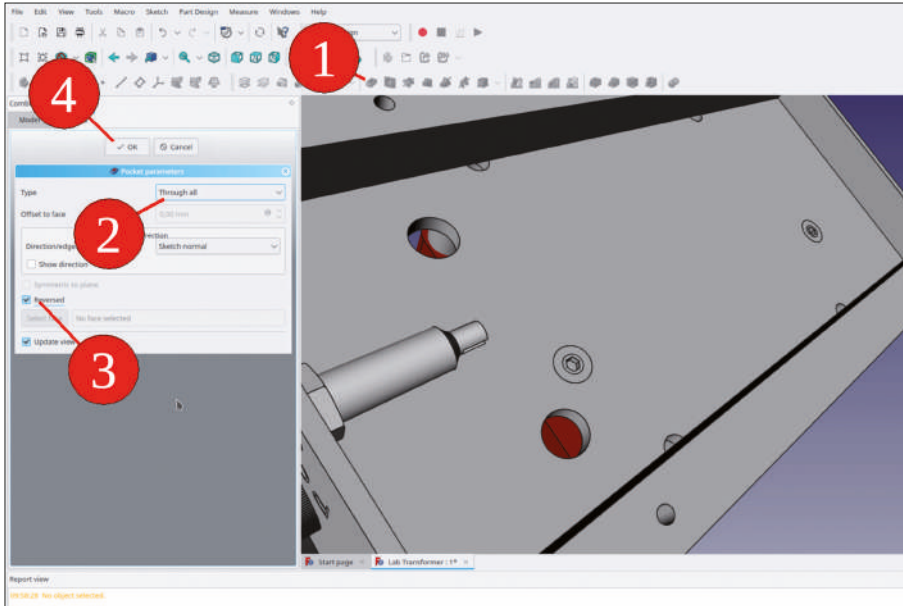

Figure 9-100
21. In the tree view, mark the new sketch and click the 'Pocket' tool button. In the task window, select the type 'Through all' and check the 'Reversed' checkbox (Figure 9-100). Close the task window with the 'OK' button.